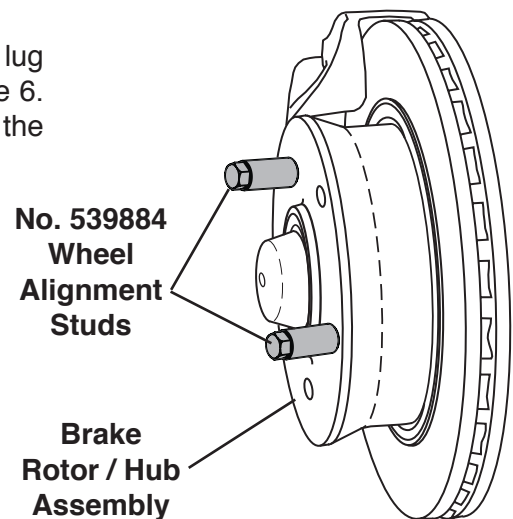

Figure 6
1. Install the No. 539884 Wheel Alignment Studs into the lug stud holes on the brake rotor / hub assembly. See Figure 6. This allows the wheel to slide on the studs when installing the wheel on the vehicle.